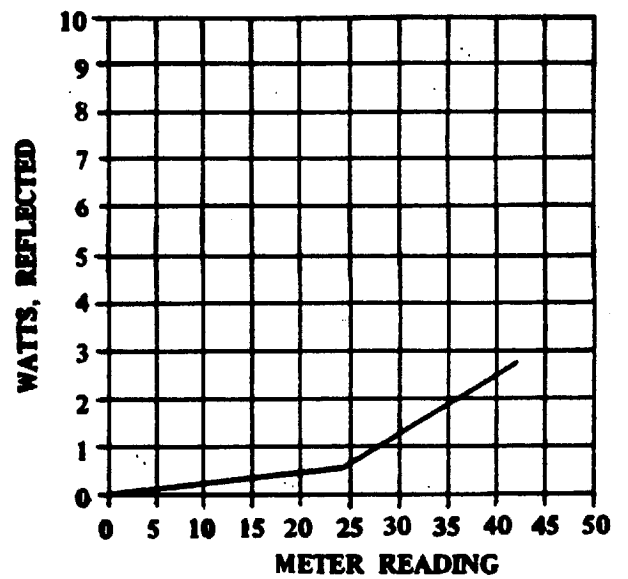

Figure 5-4. Exciter Reverse (Reflected) RF Power Vs Meter Reading
- (3) Power amplifier cavity input tuned for minimum reading on exciter reverse. See Curve Figure 5-4.